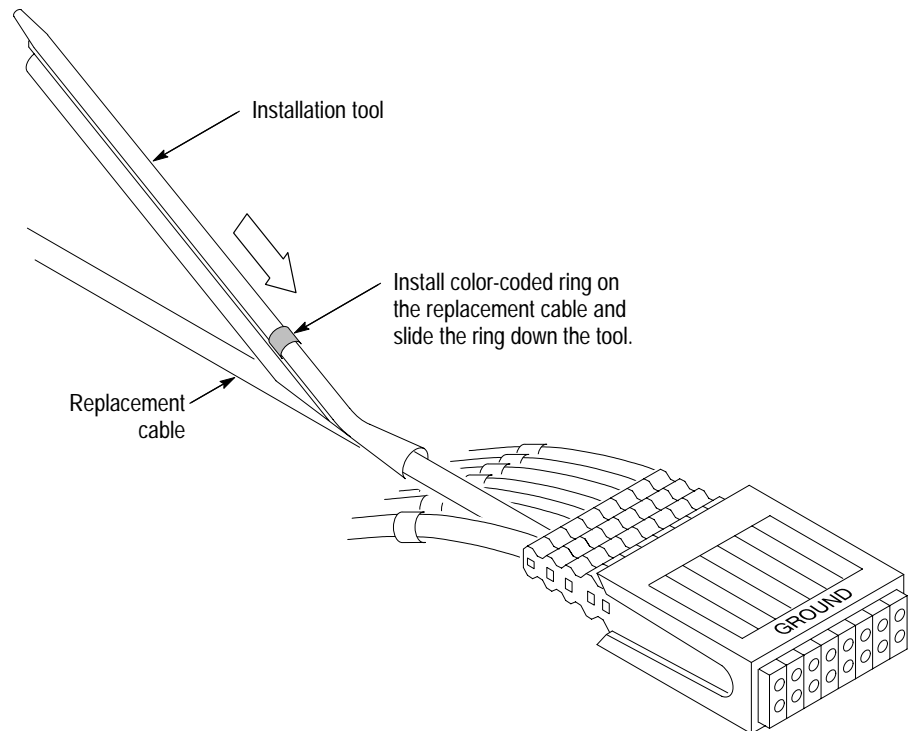

Figure 15: Installing the color-coded ring
- 15.** Refer to Figure 15 and place the installation tool over the replacement podlet cable as shown. Slide the color-coded ring down the installation tool onto the replacement cable. Position the ring so that it is in the same relative position as the other color-coded rings (approximately 0.5-inch from the podlet).